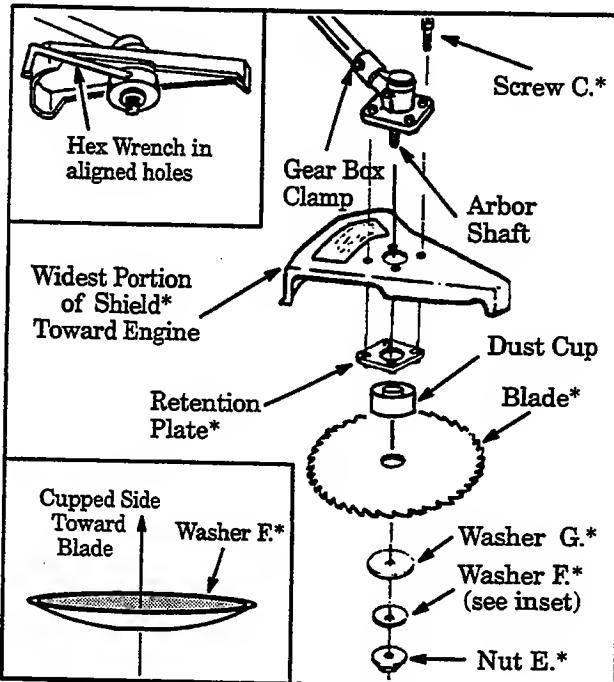

Figure 6
Failure to install the shield in the position shown in Figures 6 and 7 can result in serious injury to the operator. The length of the shield must be aligned with the length of the tube. Direct widest part of the shield toward the engine.
- c. Position the retention plate on the underside of the metal shield and align screw holes. Make sure the flat side of the plate is against the metal shield. Figure 6.
- d. Hold the retention plate in position and place the metal shield under the gear box. Align screw holes. Figure 6.
- h. Install blade over arbor shaft, making sure the hole in the center of the blade is fitted around the raised center on the dust cup. Figure 6.
**NOTE:** When installing blade, make sure teeth on blade are oriented as shown in Figure 6.
- i. Install the large flat washer "G.", cupped washer "F.", and nut "E." as shown in Figure 6. Be sure cupped washer "F." is installed as shown in Figure 6 (inset).
- k. Insert the large hex wrench (provided) into the aligned holes. Figure 6 (inset, upper left).